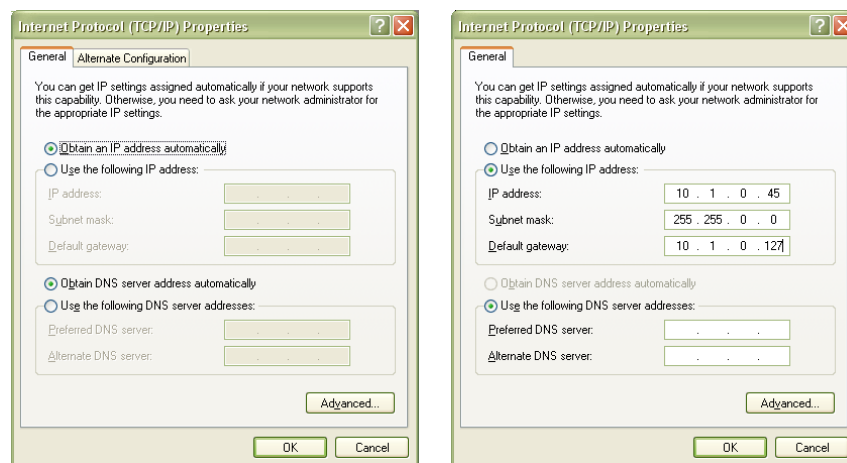

FIGURE 8-3: DYNAMIC (LEFT) AND STATIC (RIGHT) IP ADDRESS CONFIGURATIONS
- 5) Determine if the PC is set to use auto or static IP. Figure 8-3 shows examples of both auto and static IP address configurations.